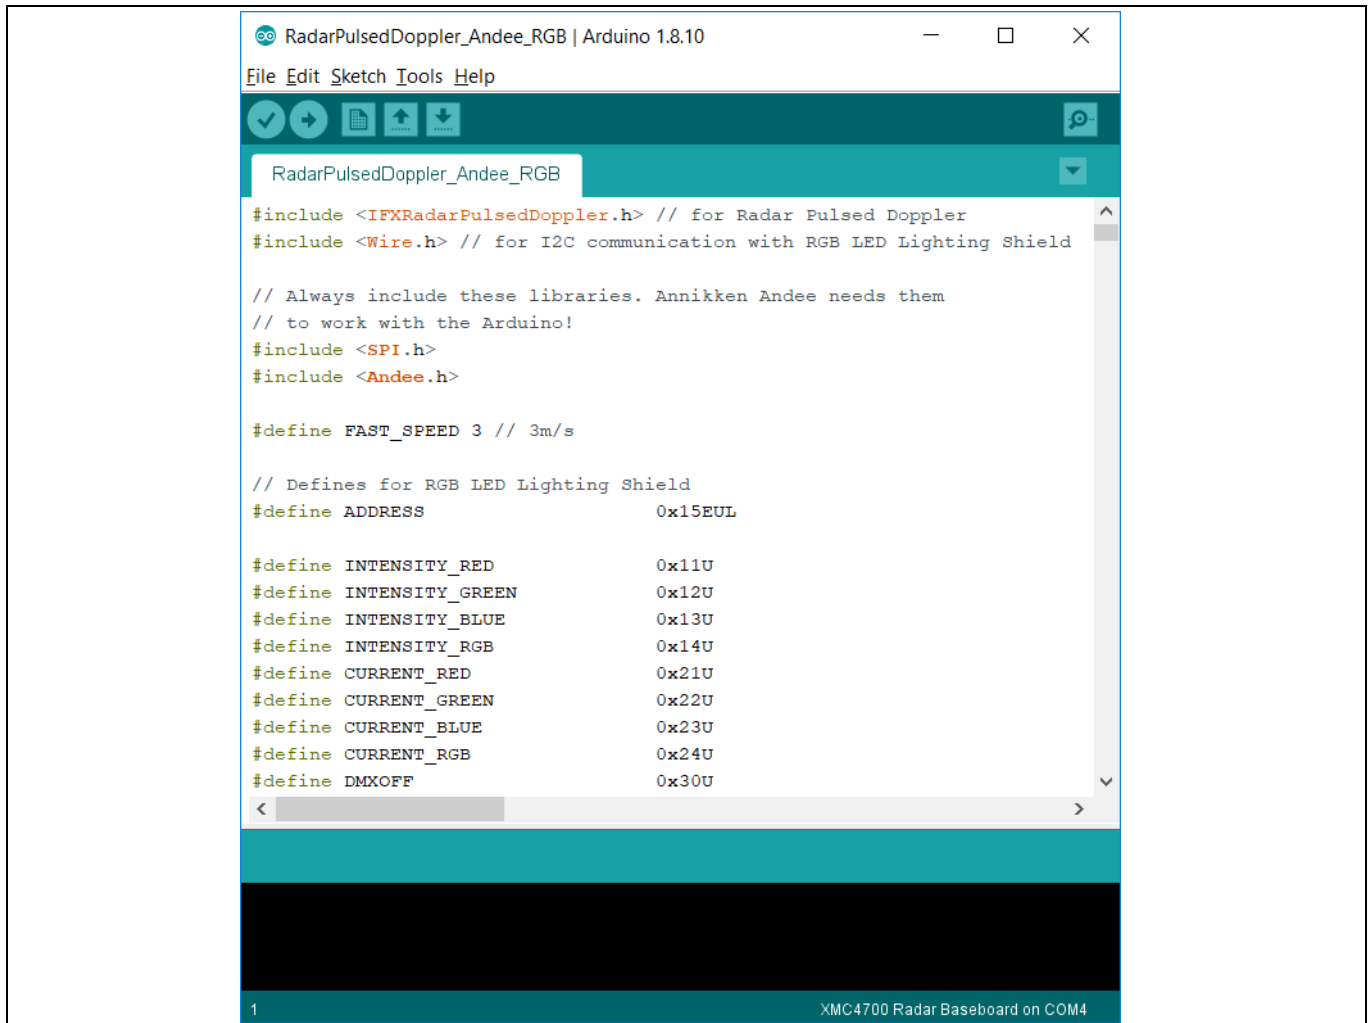

Figure 24 Example sketch: RadarPulsedDopplerLED_Andee_RGB
1. In Arduino IDE, navigate to *File > Examples > IFXRadarPulsedDoppler > RadarPulsedDoppler_Andee_RGB*. The sketch will open (Figure 24).